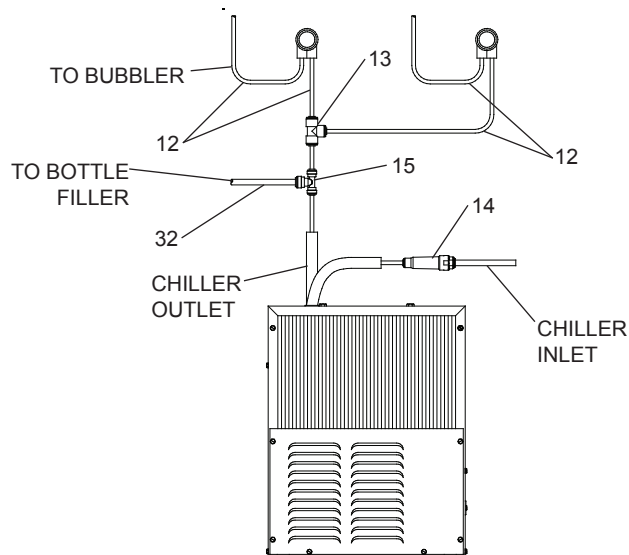

Figure 2 - EZWS-ERPBD Tube Routing
- 3a. (For EZWS-ERPBM28K)** Install strainer on the input tube to the chiller (Fig. 2).